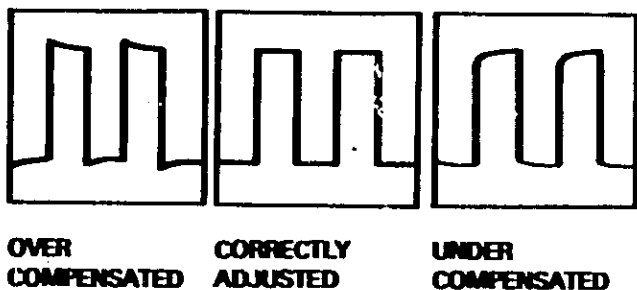

Figure 3-2. Divider Probe Adjustment Display
- b. Connect divider probe to channel A INPUT connector ②.
- c. Connect divider probe tip to CAL 1 V terminal ③.
- d. Set channel A input coupling ④ to DC.
- e. Set channel A VOLTS/DIV control ⑤ for square-wave display with two to three divisions of vertical deflection.
- f. Set main TIME/DIV control ⑥ for horizontal display of at least two full square waves (0.2 mSEC range).
- g. Adjust divider probe compensation for correct display (figure 3-2).